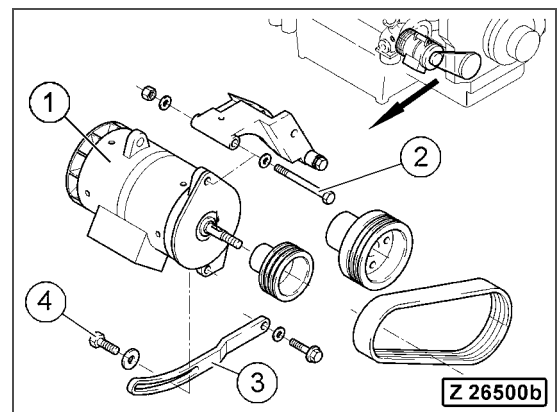

Fig. 3-85
1. Assemble the alternator (Fig. 3-85, Pos. 1) and the mounting bolt (Fig. 3-85, Pos. 2).
3. Tense the drive belt and fasten the bolt (Fig. 3-85, Pos. 4) at the tensioner (Fig. 3-85, Pos. 3).
4. Fasten the mounting bolt (Fig. 3-85, Pos. 2).